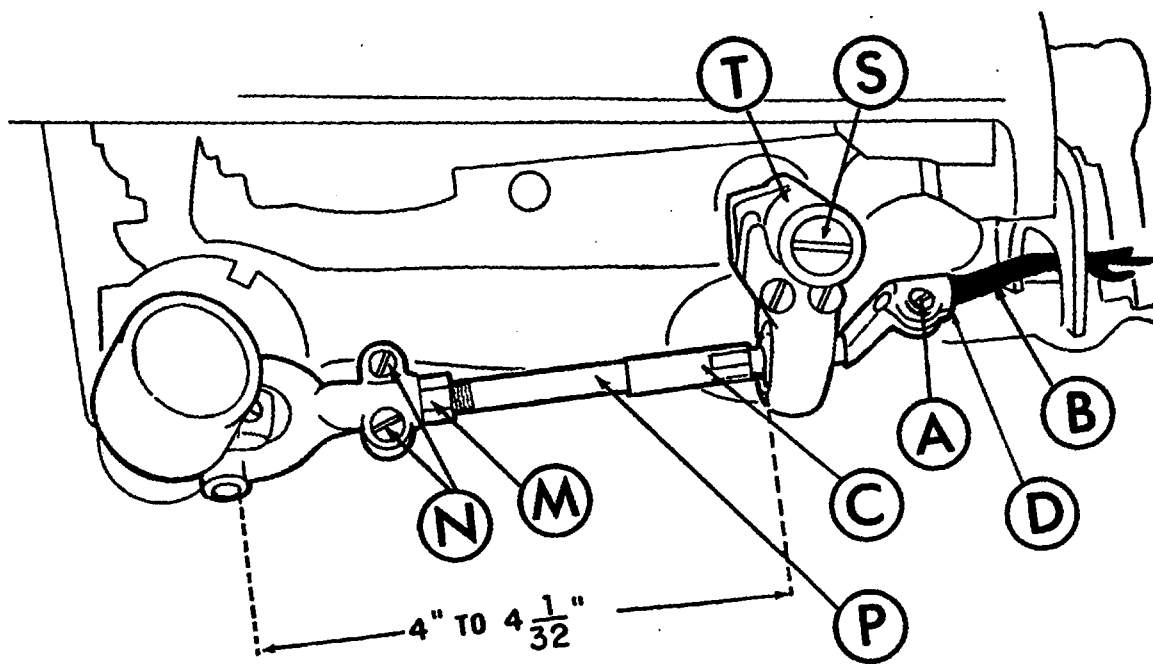
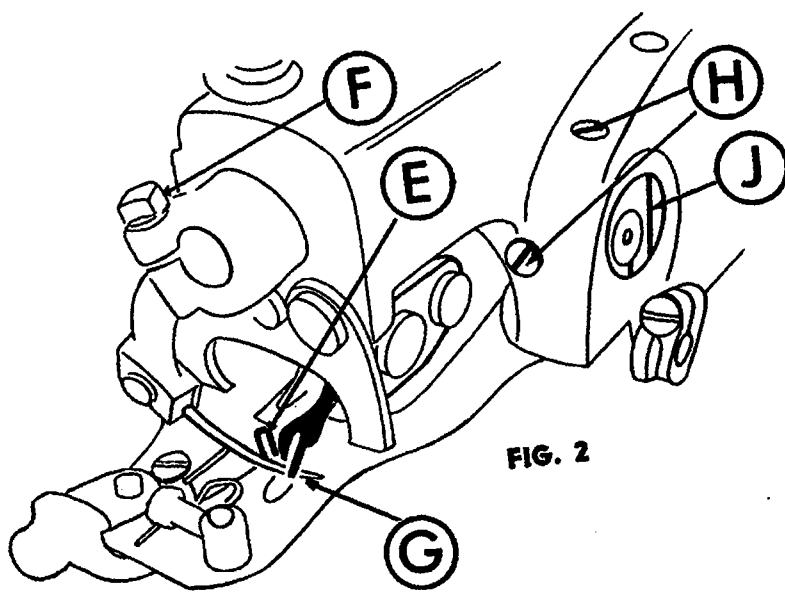
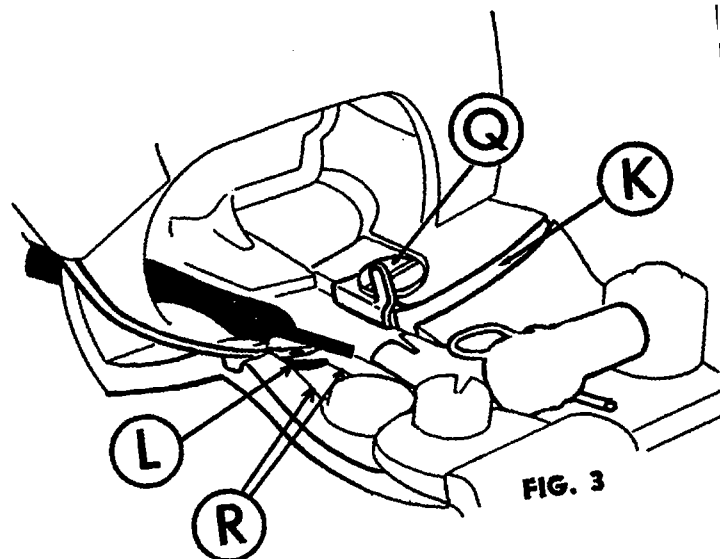

FIG. 1
FIG. 2
FIG. 3
2. To put Looper in, be sure you put Looper in until shoulder of Looper touches shoulder of Looper Rod (C) at point (D).
3. (FIG. 2) Turn Handwheel by hand, carefully and slowly. Looper must clear the Chain-Off Pin (E) and clear needle, being just above the needle about the thickness of a sheet of paper at point (G). The long prong of the Looper should be about $3/32''$ from the needle when needle is at the limit of stroke.
4. Should Looper touch needle or Presser Foot at point (G), loosen screws (H) and use wide blade of screwdriver in slot of Eccentric Block at (J). If Looper is hitting needle, turn Eccentric Block clockwise. If Looper is too far above needle, turn Eccentric Block counterclockwise.
5. (FIG. 3) If Looper touches Presser Foot or needle at point (K) and upper part (long prong) of Looper at point (L), turn Eccentric Block clockwise.
6. (FIG. 3 & FIG. 1) Should Looper be touching at point (K) and needle touching short prong of Looper at point (L), then you must loosen nut (M) and screws (N). Then turn Looper Rod at point (C) downwards, which will clear the short prong of your Looper at point (L) and raise the Looper at point (K).
7. (FIG. 2 & FIG. 3) By turning Eccentric Block (J) clockwise or counterclockwise, it will raise or lower your Looper at points (K) and (L).
8. (FIG. 3 & FIG. 2) For Looper To clear Chain-Off Pin (Q) and Presser Foot at (R), Eccentric Block (J) can be moved from left to right by loosening screws (H). This will give you the desired clearance.
9. (FIG. 1 & FIG. 2) If this is necessary, be sure that Looper Rod Carrier Pin (S) is flush against Looper Rod Carrier (T) and does not have any play left or right. Secure by re-tightening screws (H).